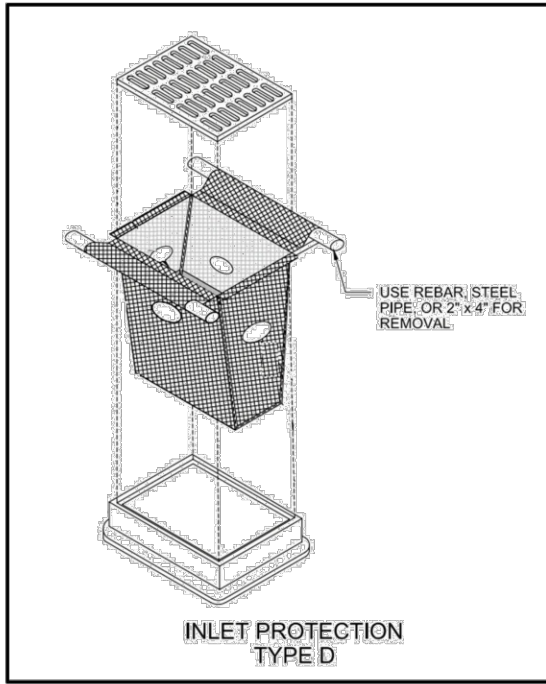

Figure 1 – Excerpt from DNR Tech Standard #1060
- a. **INLET PROTECTIONS** – Type D shall be used in curbs and roadways unless the structure is not deep enough. Curb head boards shall not be installed in areas where and when City snow plow trucks might be in operation – See Figure 1 and DNR Tech Standard #1060